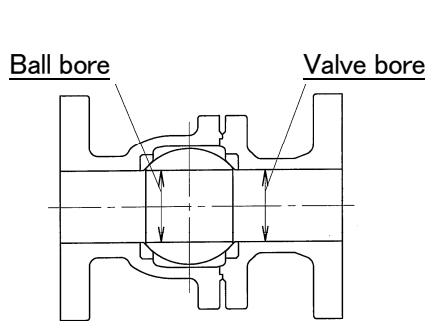
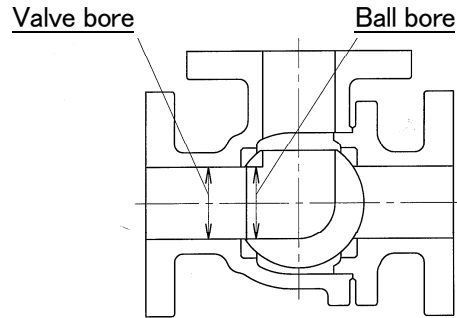

Fig. 33
Fig. 34
- ⑧ Manually set a valve to the fully opened position, according to the procedures given in ③ , ④ and ⑤ of Section 12 of this manual. Adjust the fully opened position of ball valves to set a ball bore and a valve bore concentrically, referring to Fig.33 for 2-way ball valves or Fig. 34 for 3-way ball valves. In the case of Fig. 33, visually check the valve interior through the left-hand flanged end opening.